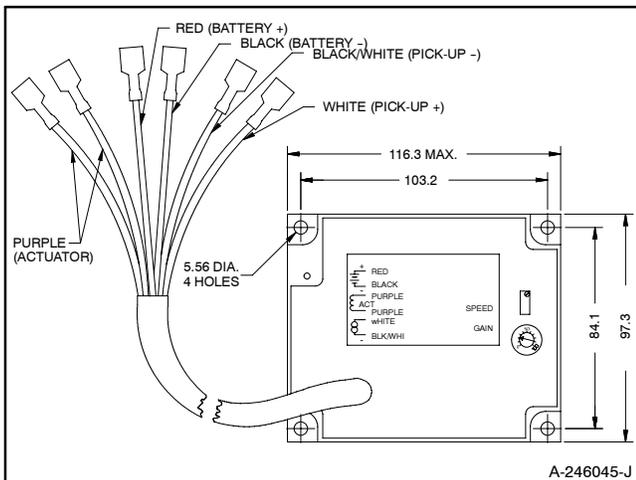
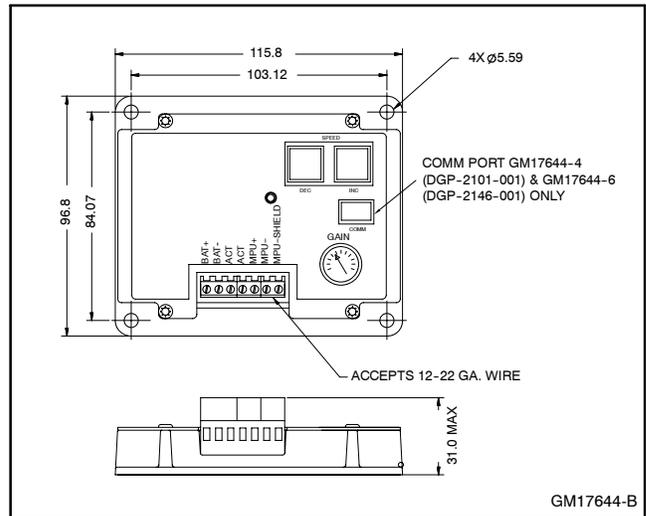

Figure 4 Governor Controller 324515 and 336236
Figure 5 Governor Controller Dimensions, GM17644 Series
- 1.2.1 Locate the governor controller mounted in the controller. See Figure 4 or Figure 5.